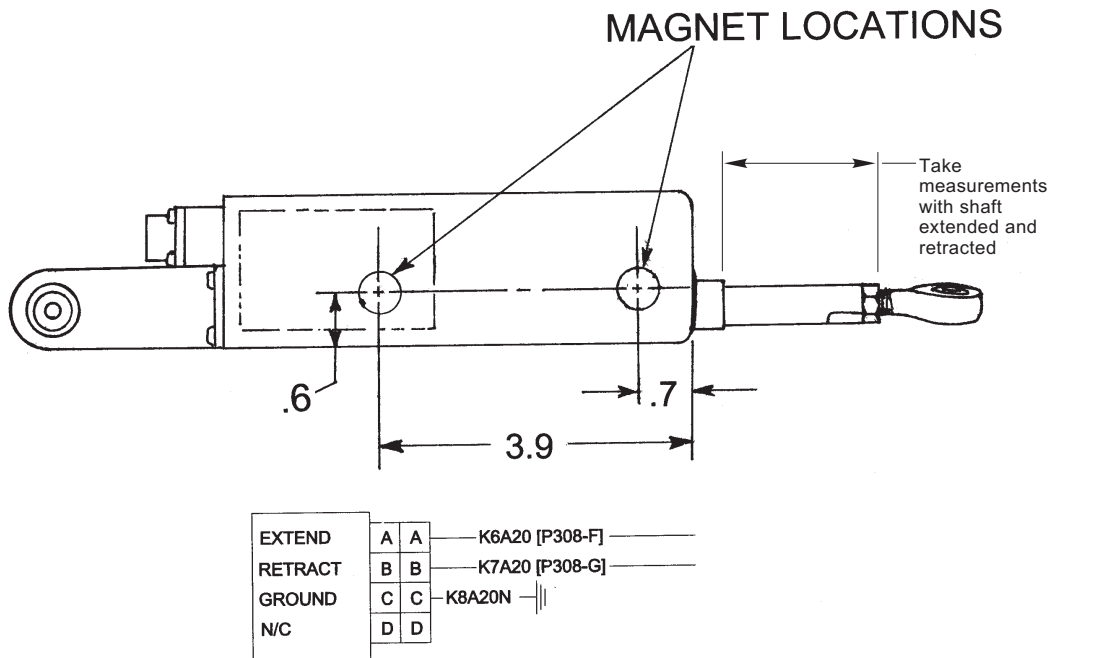

Figure DB-015-1
- (3) Place permanent magnet at fixed end in area shown in Figure DB-015-1 on the data plate side and retract actuator shaft until sound from electric motor shows it has stalled.
- (4) Measure length of shaft protruding from actuator and record measurement.
- (5) Place magnet at the opposite end (Fig. DB-015-1) and extend actuator shaft until motor stalls. Measure and record length of shaft protruding from actuator.
- (6) Subtract fully retracted measurement from fully extended measurement. A measurement less than 1.128 inches indicates an unserviceable actuator that must be removed from service before further flight.
- (7) Retract a serviceable actuator to mid range and reinstall trim actuator in accordance with Basic HMI Section 4.
- (8) Record compliance with this periodic inspection in the aircraft records.